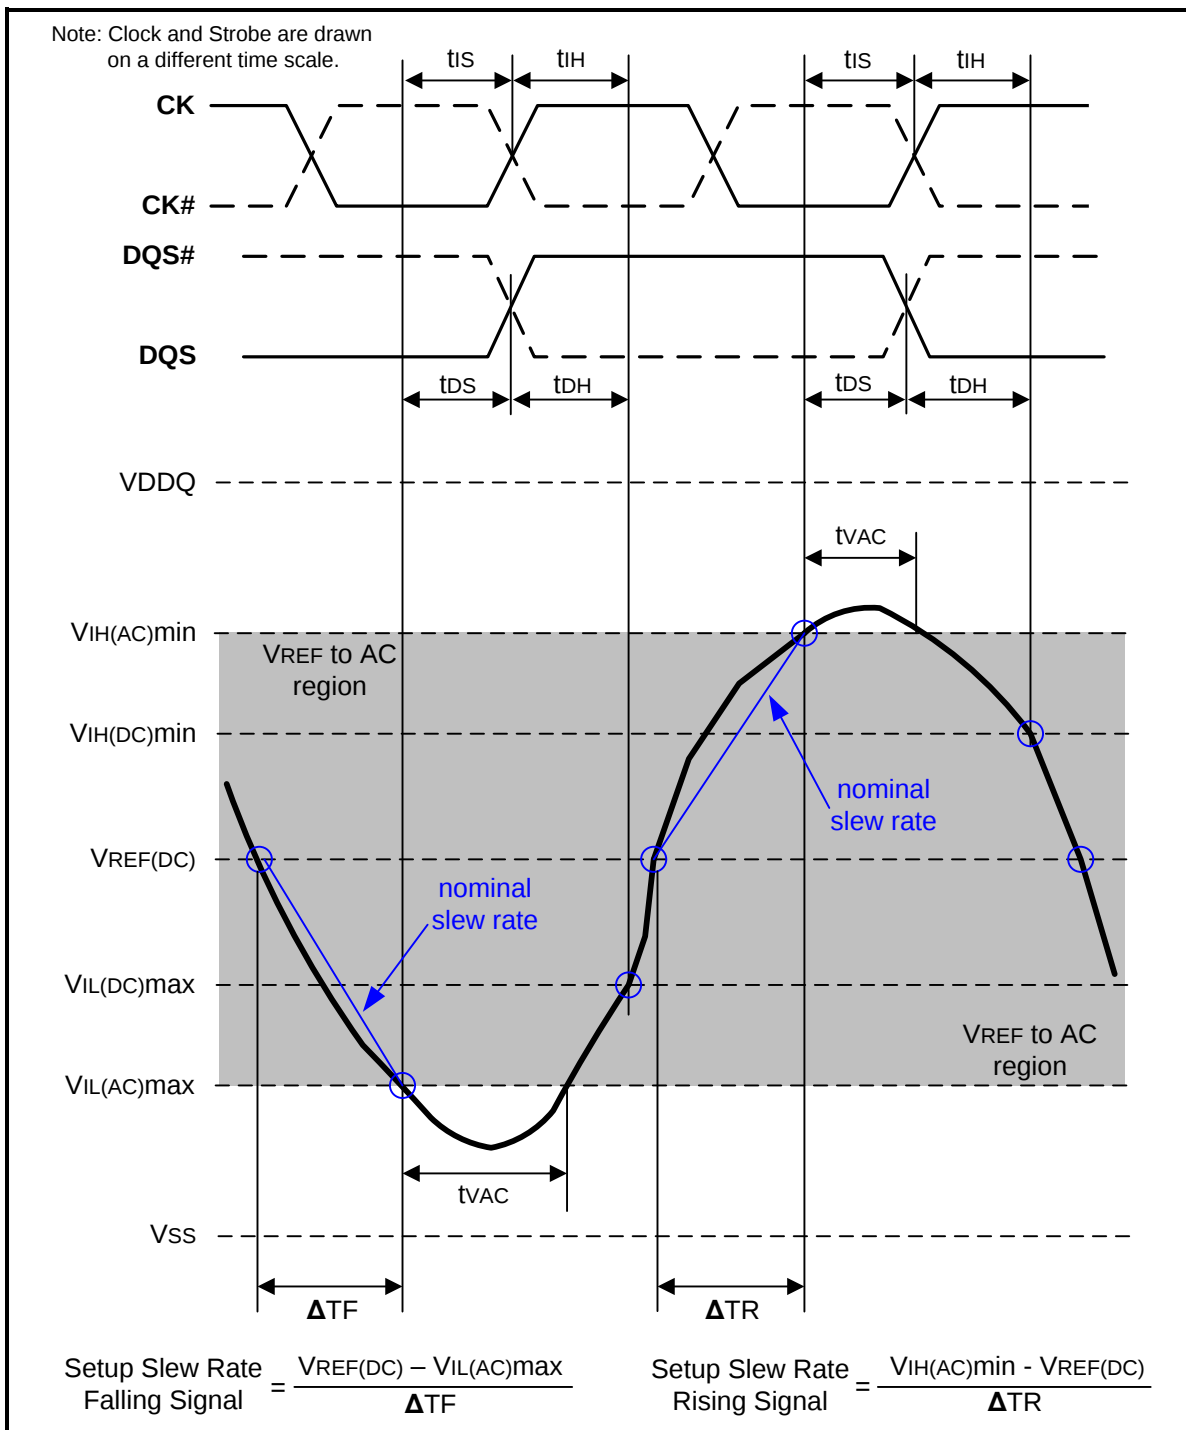
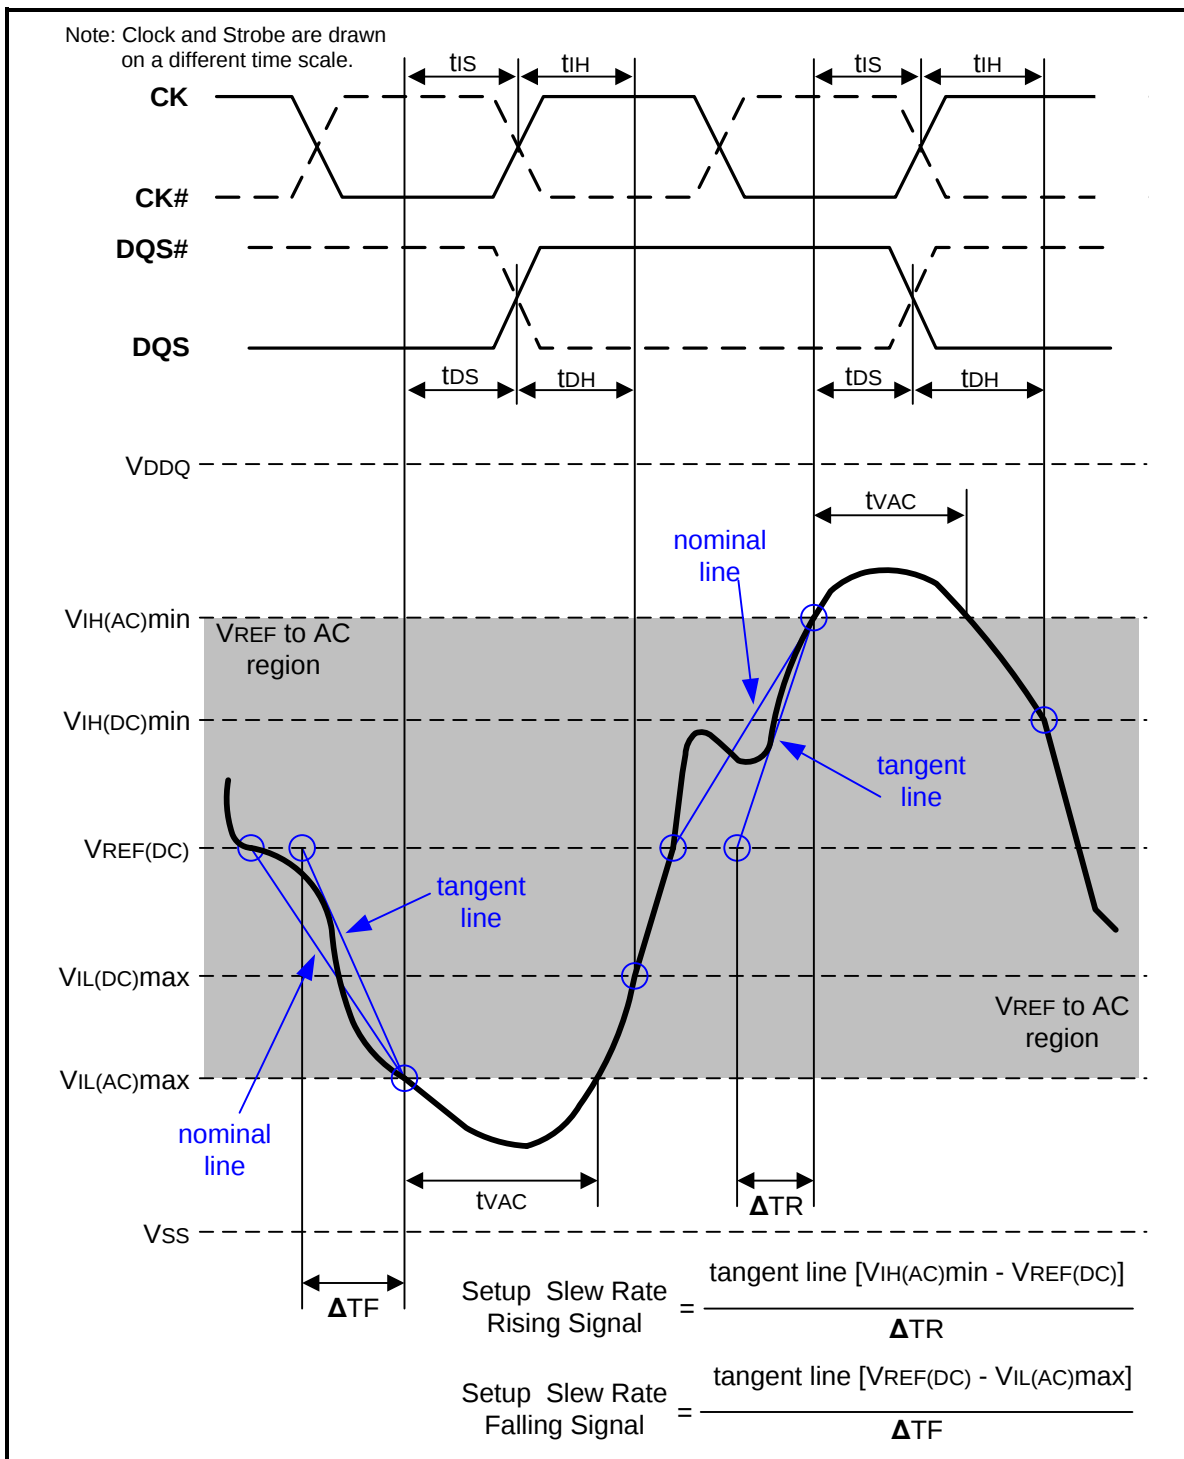

Figure 107 – Illustration of nominal slew rate and t_{vac} for setup time t_{ds} (for DQ with respect to strobe) and t_{is} (for ADD/CMD with respect to clock)
Figure 109 – Illustration of tangent line for setup time t_{DS} (for DQ with respect to strobe) and t_{IS} (for ADD/CMD with respect to clock)
Setup (t_{IS}) nominal slew rate for a rising signal is defined as the slew rate between the last crossing of $V_{REF}(\text{DC})$ and the first crossing of $V_{IH}(\text{AC})_{\text{min}}$. Setup (t_{IS}) nominal slew rate for a falling signal is defined as the slew rate between the last crossing of $V_{REF}(\text{DC})$ and the first crossing of $V_{IL}(\text{AC})_{\text{max}}$. If the actual signal is always earlier than the nominal slew rate line between shaded 'VREF(DC) to AC region', use nominal slew rate for derating value (see Figure 107). If the actual signal is later than the nominal slew rate line anywhere between shaded 'VREF(DC) to AC region', the slew rate of a tangent line to the actual signal from the AC level to $V_{REF}(\text{DC})$ level is used for derating value (see Figure 109).
Setup (tDS) nominal slew rate for a rising signal is defined as the slew rate between the last crossing of VREF(DC) and the first crossing of VIH(AC)min. Setup (tDS) nominal slew rate for a falling signal is defined as the slew rate between the last crossing of VREF(DC) and the first crossing of VIL(AC)max (see Figure 107). If the actual signal is always earlier than the nominal slew rate line between shaded 'VREF(DC) to AC region', use nominal slew rate for derating value. If the actual signal is later than the nominal slew rate line anywhere between shaded 'VREF(DC) to AC region', the slew rate of a tangent line to the actual signal from the AC level to VREF(DC) level is used for derating value (see Figure 109).